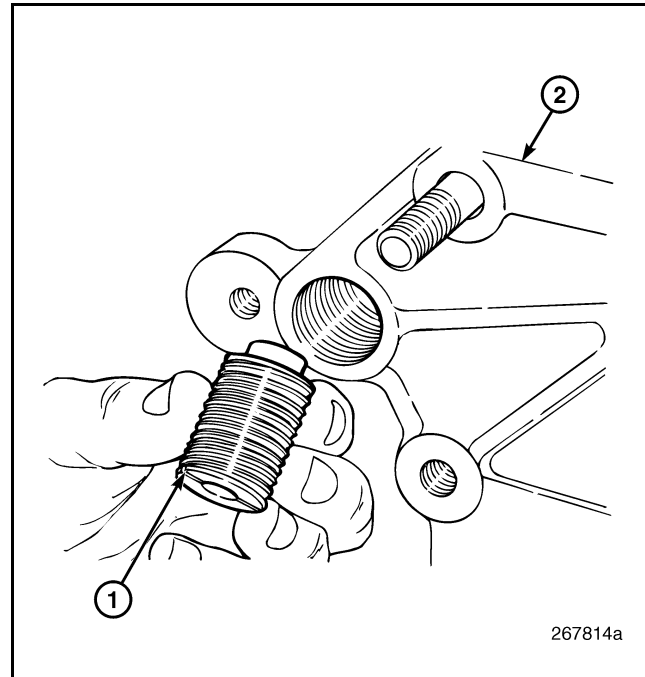

Figure 479 — Threaded Insert Installation
6. Using a suitable slotted-socket tool, remove the two inserts from the housing (Figure 479) and remove the engine lifting bracket from between the housing and the cylinder head.
3. Stand the housing on edge and from the front, start the threaded inserts into the mounting bores at the top of the housing (Figure 479). Turn them in until the collar of each protrudes from the back side and the shoulder is flush with the back side to 0.020-inch (0.5 mm) below flush.